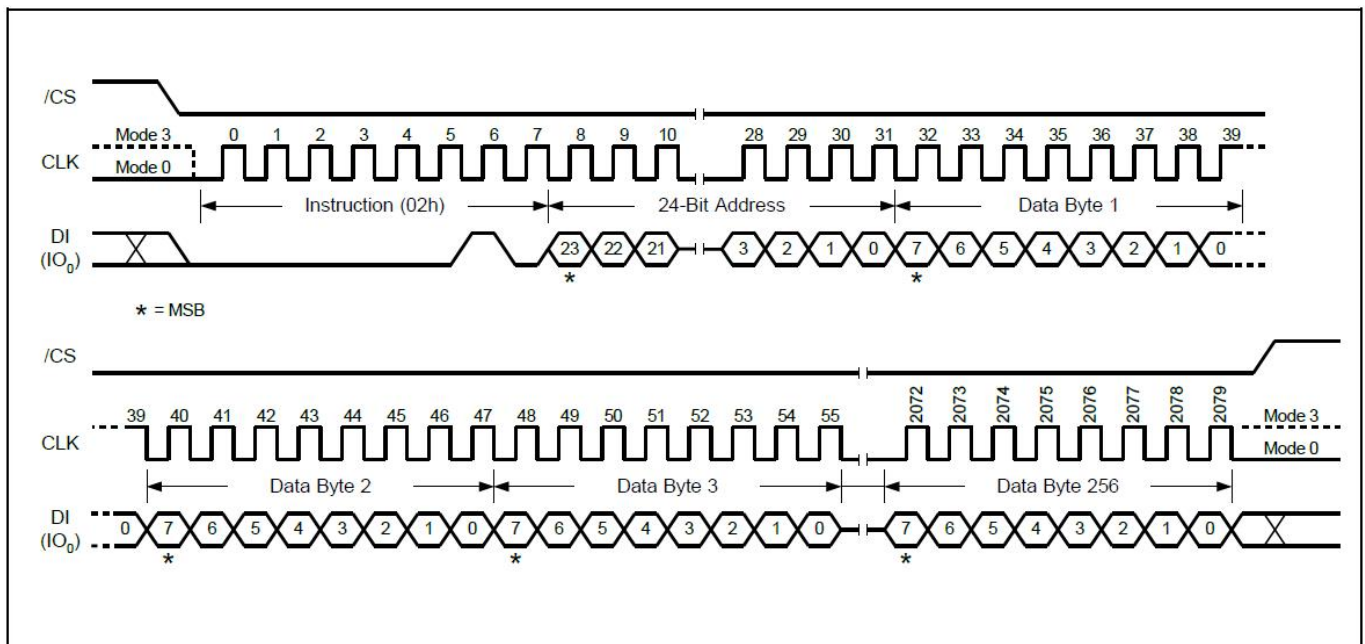

Figure13 Page Program Sequence Diagram
The Page Program (PP) command is entered by driving CS# Low, followed by the command code, three address bytes and at least one data byte on SI. If the 8 least significant address bits (A7-A0) are not all zero, all transmitted data that goes beyond the end of the current page are programmed from the start address of the same page (from the address whose 8 least significant bits (A7-A0) are all zero). CS# must be driven low for the entire duration of the sequence. The Page Program command sequence: CS# goes low → sending Page Program command → 3-byte address on DI → at least 1 byte data on DI → CS# goes high. The command sequence is shown in Figure13. If more than 256 bytes are sent to the device, previously latched data are discarded and the last 256 data bytes are guaranteed to be programmed correctly within the same page. If less than 256 data bytes are sent to device, they are correctly programmed at the requested addresses without having any effects on the other bytes of the same page. CS# must be driven high after the eighth bit of the last data byte has been latched in; otherwise the Page Program (PP) command is not executed.